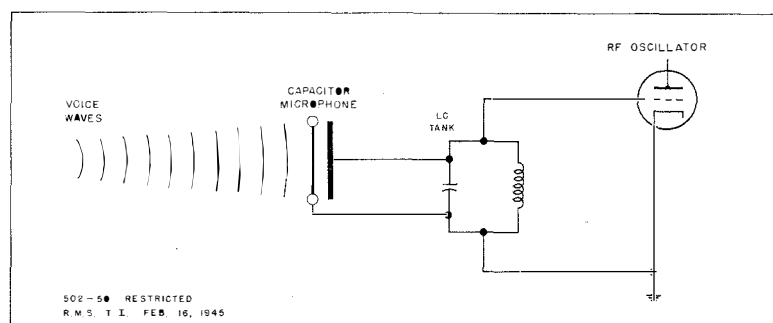
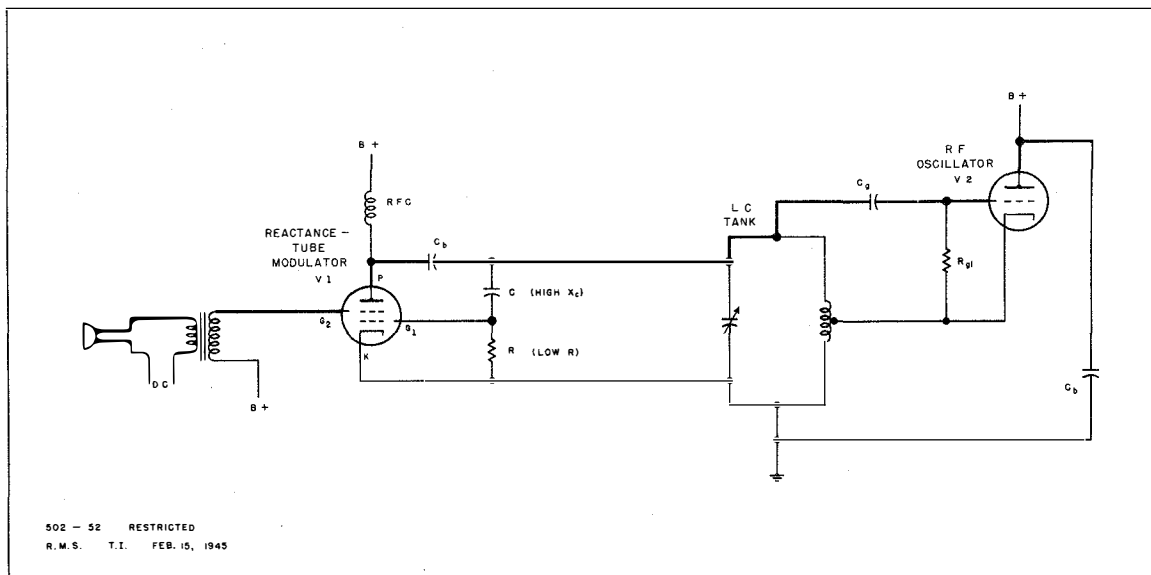

Fig. 50 Capacitor microphone FM oscillator.
Fig. 52 Reactance tube system of FM.
- (a) The combination of carbon microphone, tetrode tube and phase shifter in Fig. 52 perform the same function as the capacitor microphone in Fig. 50.
- (1) The phase shifter network consists of a high X_C and low R to provide practically a full 90-degree phase shift.